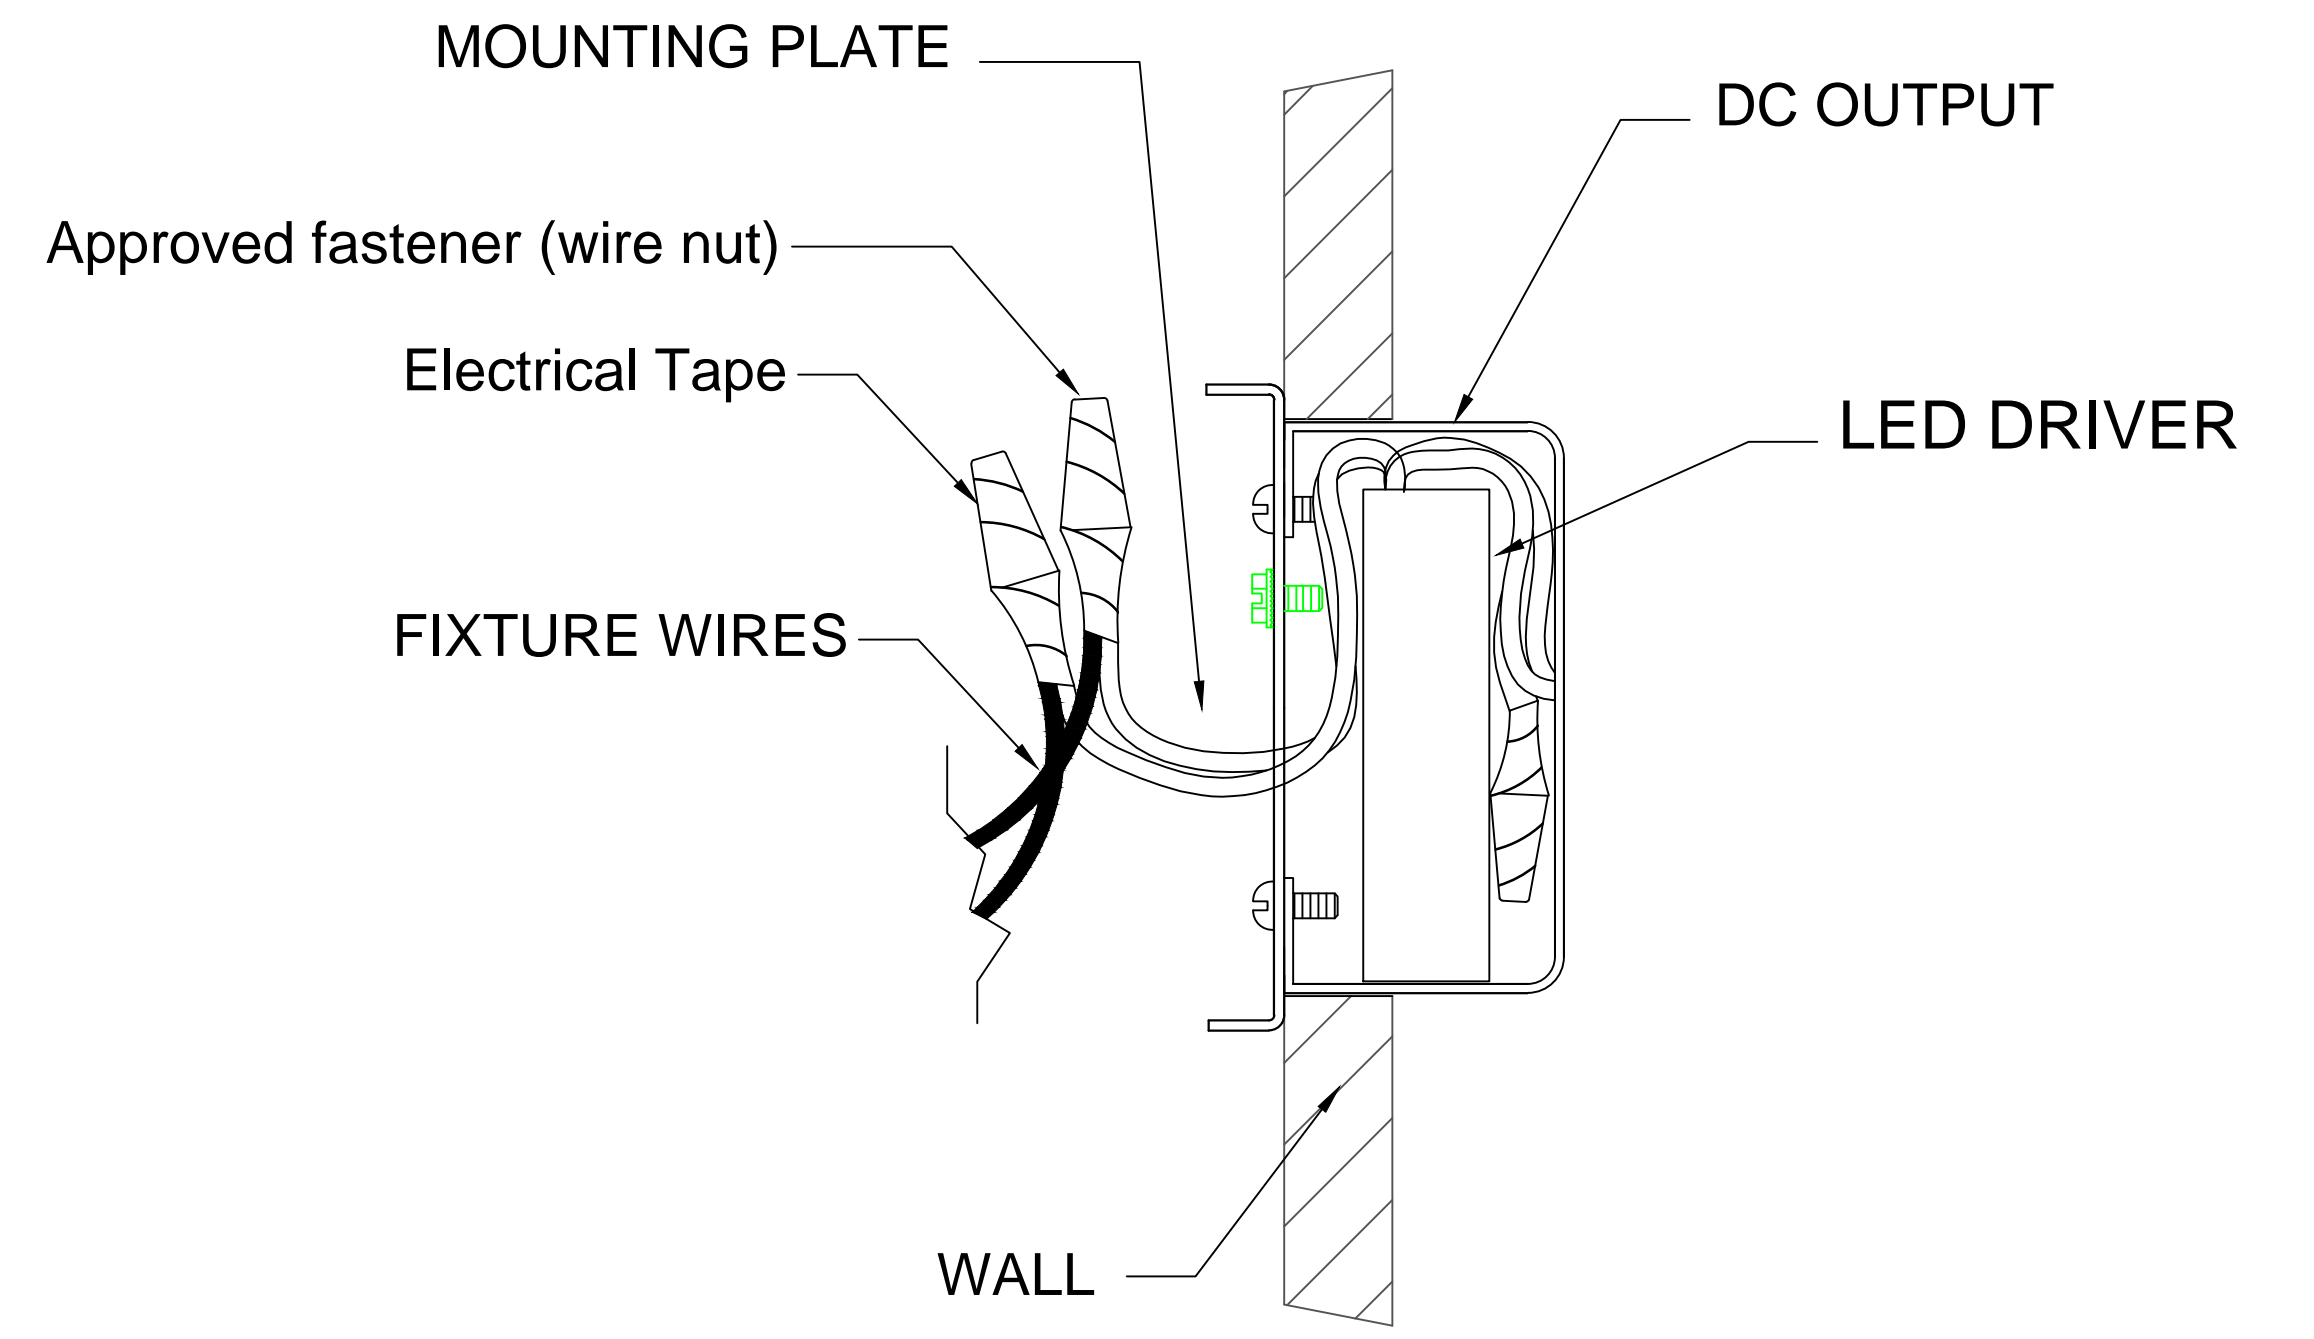

FIGURE-03
3. Put the LED Driver inside the junction box. (See Figure-03)
4. Attach the mounting plate to the junction box. (The green screw should face against the wall). Adjust the threaded stud so they extend 3/16" beyond the backplate. (See Figure-03)
Starting about 1" below the fastener, tightly wrap the connection with electrical tape so that the connections seals the end of the fastener. (See Figure-03)
Fasten the joined wires as in step 6. (See Figure -03)